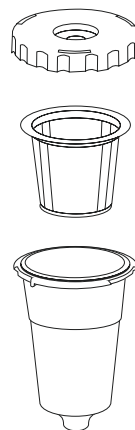

figure 26
2. Disassemble the My K-Cup® by turning the lid from the holder in a counter-clockwise direction. Remove the filter basket from the holder (see figure 26).